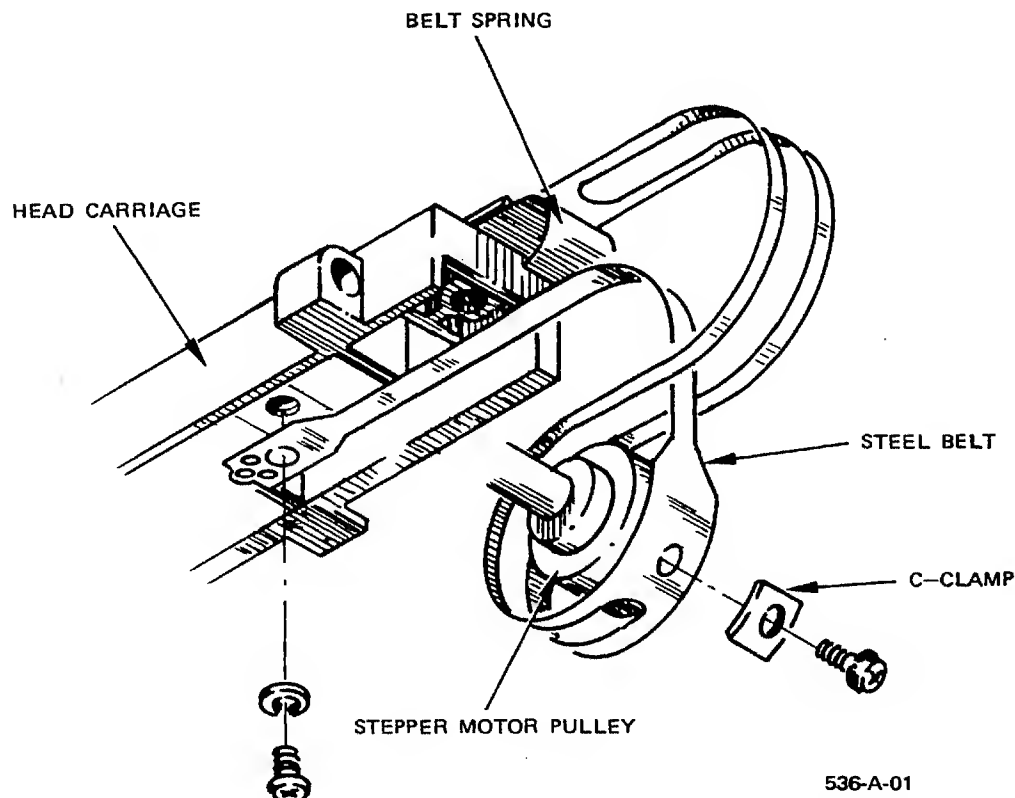

Figure 35. Steel Belt Installation
4. Push the carriage forward (toward the front door) and loosely screw one end of the steel belt to the top of the carriage as illustrated in Figure 35 (Use a narrowed down version of a screw starter to fit in the Phillips screws; avoid using magnetic tools). Ensure that the two holes in the end of the belt slip over the bosses on the carriage. Route the belt over the top and around the stepper motor pulley. Then slip the belt through itself and attach the end of the belt to the bottom of the carriage by depressing the belt spring. Again ensure that the holes in the end of the steel belt slip over the carriage bosses.